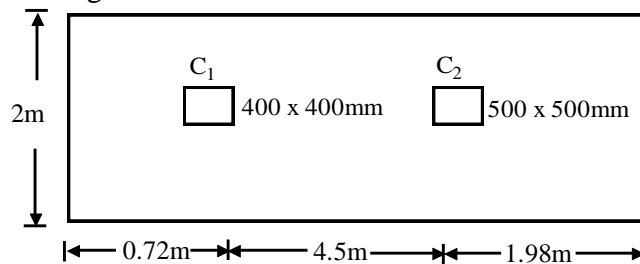

Figure 3
12. Design the raft beam for two columns 400×400 and 500×500 supporting the service loads of 900 kN and 1600 kN respectively and the Centre to Centre distance between them is 4.5m. The total width of raft slab is 2m. The offsets from the Centre lines of columns are 0.72m and 1.98m as shown in figure3. Use M25 grade of concrete and Fe 415 type steel. Provide the raft beam over the entire length of the raft slab. Design of raft slab is not required and assume its thickness as 300mm. Detail design by a neat diagram. 14